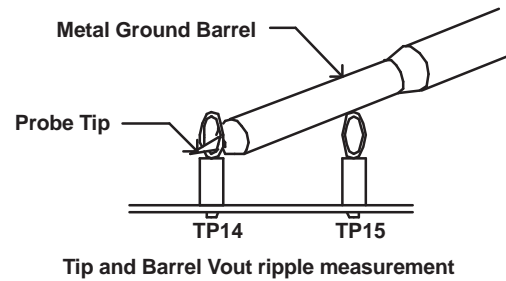

Figure 4. Output Ripple Measurement - Tip and Barrel Using TP14 and TP15
7. Connect the oscilloscope probe to TP14 and TP15 as shown in Figure 4.